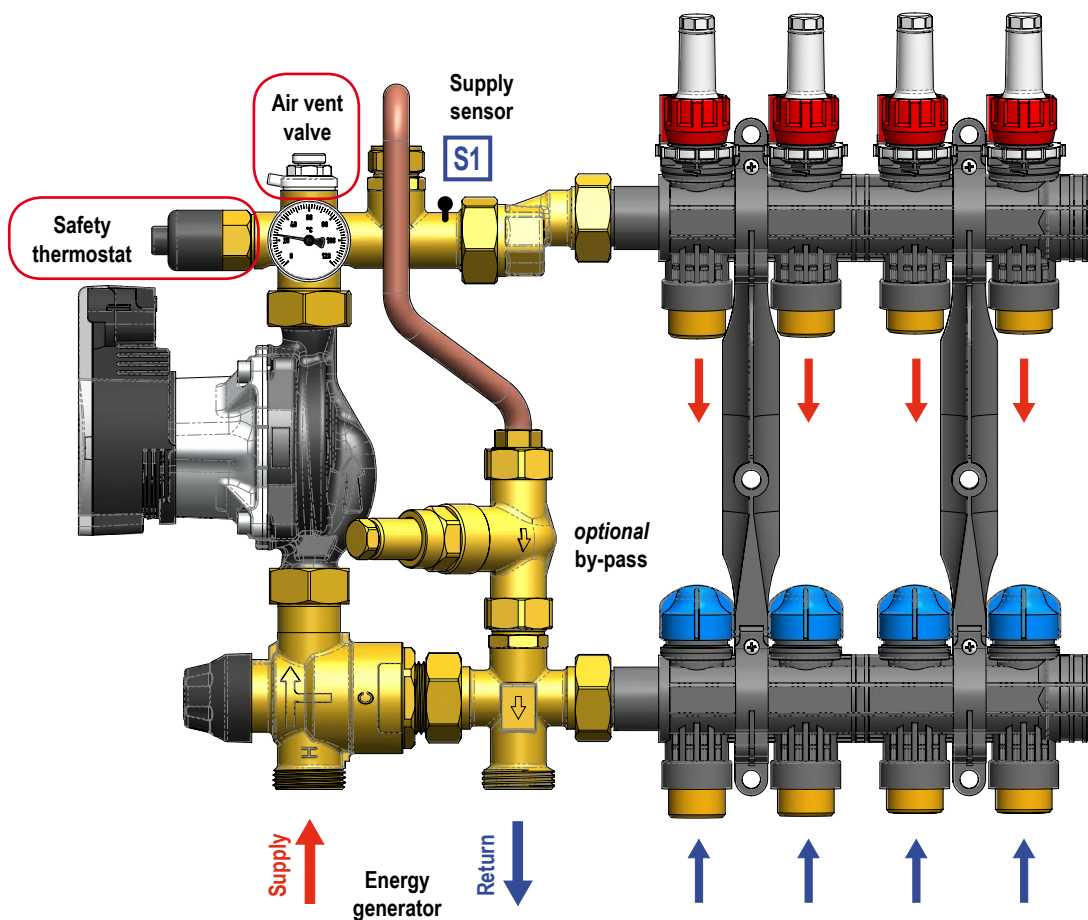

Fig.1: connection scheme
- ✓ Connect the pipes according to the connection scheme, by following the instructions given in Fig.1. Fill the system and, if necessary, de-aerate by acting on the vent valve.